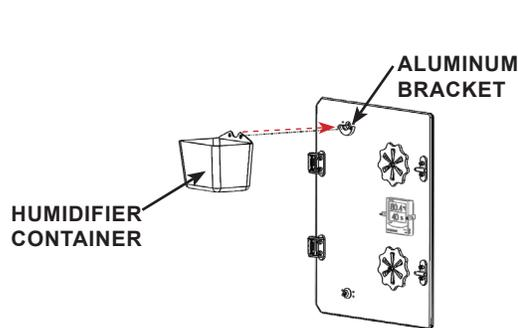

FIGURE 3.2 - Humidifier
STEP 1: Install the humidifier container using the keyhole slots and exposed screw heads. See FIGURE 3.2